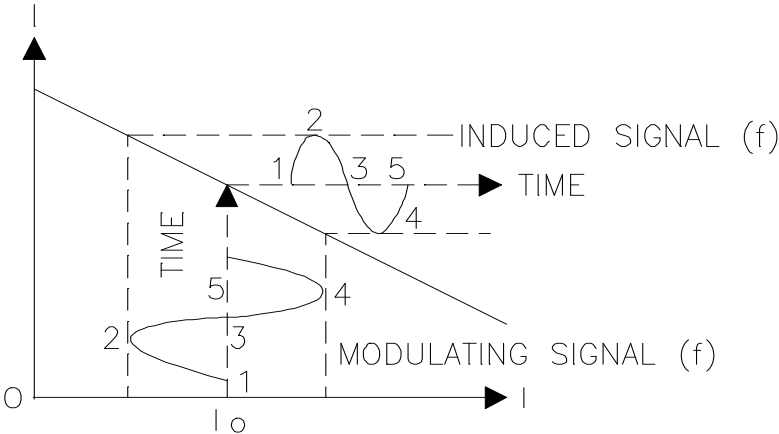
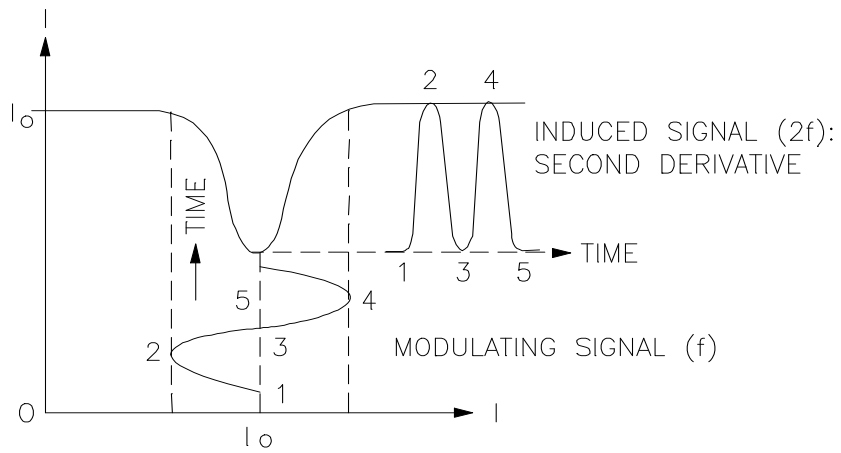

Figure 1-5. Absorption Curve: Modulated Without Curvature
Figure 1-6. Absorption Curve Modulated with Curvature
Figure 1-5 through Figure 1-8 below illustrate the generation of the AC second-derivative signal. A linear absorption curve showing light intensity (I) versus wavelength (λ) without peak absorption wavelengths present is illustrated in Figure 1-5. This type of response appears when there is neither NO nor SO₂, or at some
In contrast, an absorption curve with a peak absorption wavelength (λ_0) and thus with curvature is shown in Figure 1-6. As the wavelength is modulated with frequency (F) about λ_0 , the induced second-derivative signal ($2F$) can be traced point-by-point on the graph. Each identically-numbered point corresponds to simultaneous time between the two signals. By contrast, look at Figure 1-5 and Figure 1-6 and notice the difference in location of the induced signal points (1 through 5) for an identical (F) signal. Superimposing ($2F$) on (F) demonstrates that ($2F$) is twice (F) in frequency and is out of phase, except at 90° (see Figure 1-7).